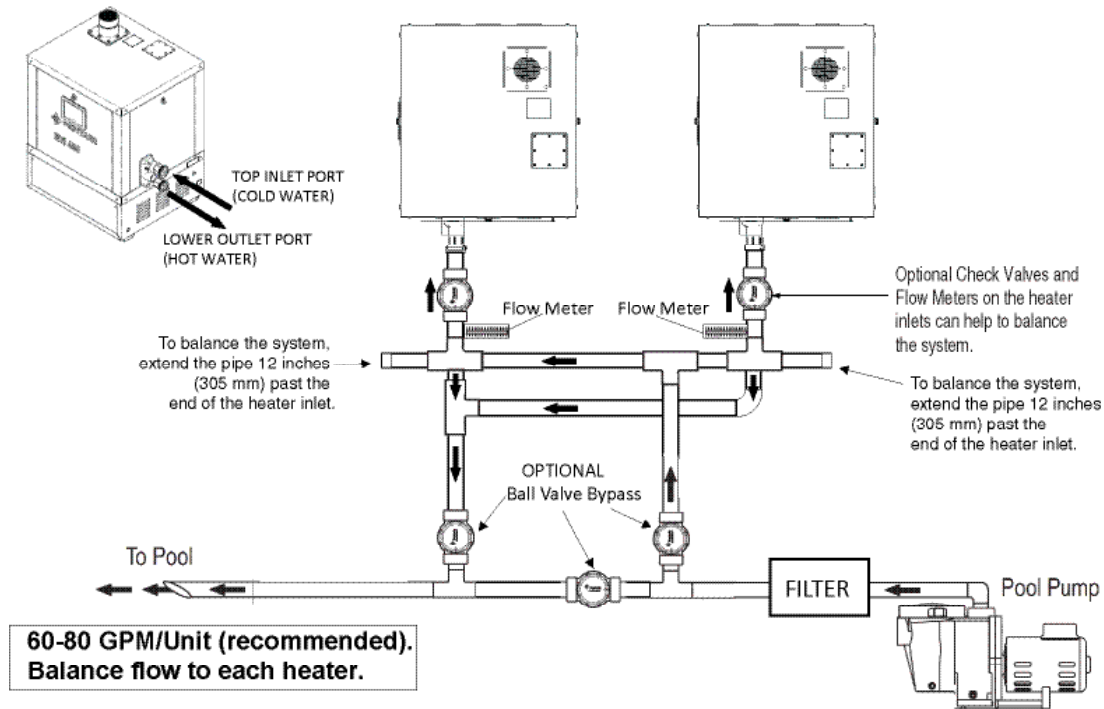
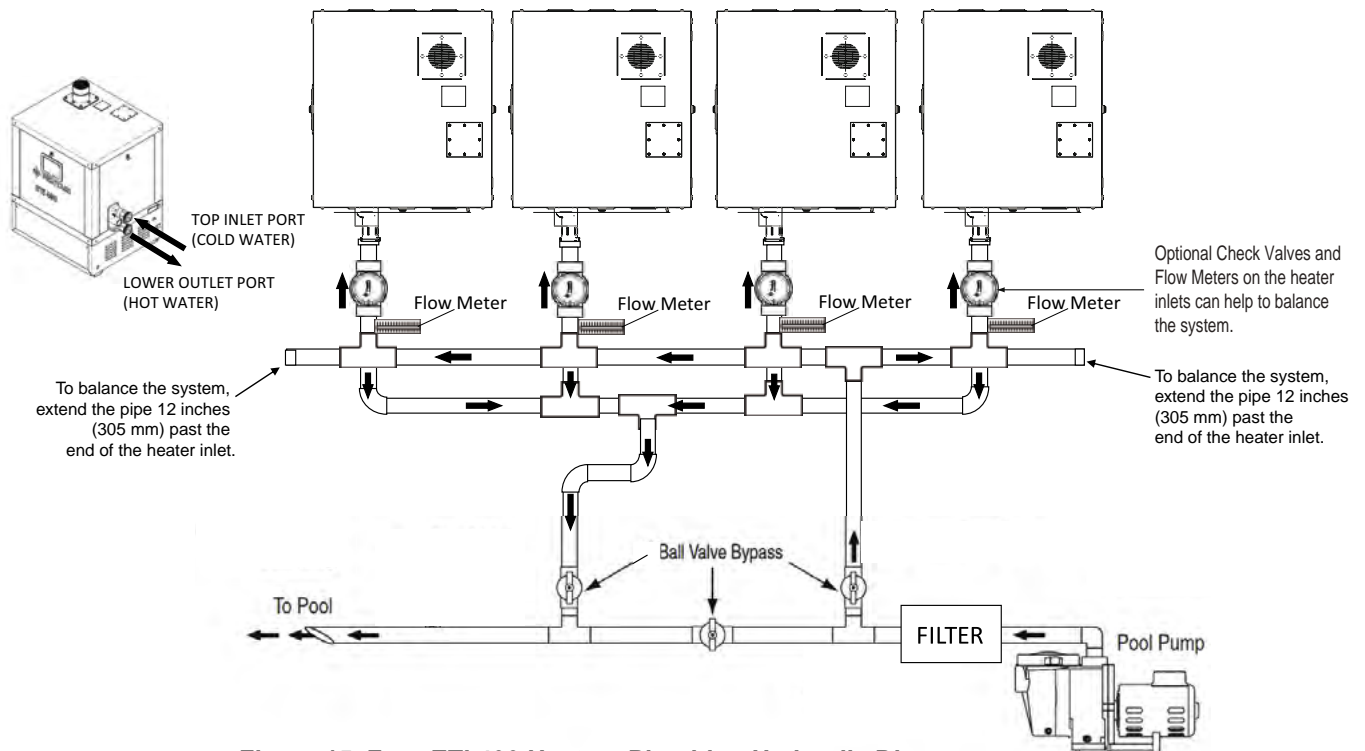

Figure 14. Two ETi 400 Heaters Plumbing Hydraulic Diagram
Figure 15. Four ETi 400 Heaters Plumbing Hydraulic Diagram
All plumbing on multiple heater installations must be done in parallel. See Figure 14 and Figure 15. To prevent heater overheating and to ensure heater longevity, water flow to each heater must be balanced for optimum operation. To meet recommended flow rates, be sure all installed pipes are installed in accordance with local and state codes or, in the absence of local codes, with all applicable codes and industry plumbing standards. To allow for proper operation and service clearance, maintain spacing to adjacent heaters. Heaters installed too close to one another may encounter operational issues associated with exhaust and/or condensation.
**CHECKING THE GAS PRESSURE THROUGH THE COMBINATION GAS CONTROL VALVE (See Figure 15):** Before operating the heater, the heater and its gas connections must be leak tested. **Do NOT use an open flame to test for leaks.** Test all gas connections for leaks with soapy water or another non-flammable method.